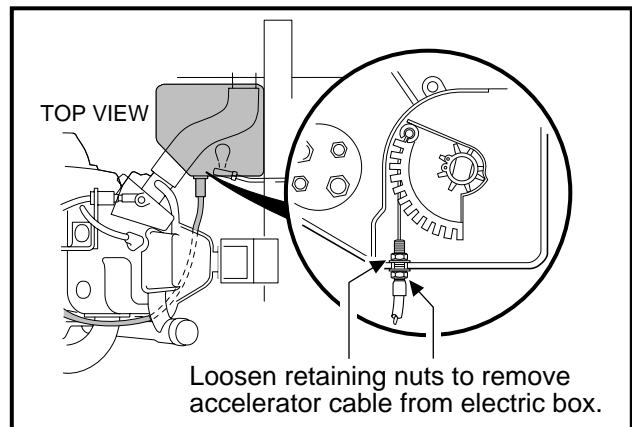

Figure 16-16 Accelerator Cable
3.6. Remove the cover from the electrical component box. Then loosen the hardware securing the accelerator cable to the box. Disconnect the cable from the actuator cam and remove it from the box (**Figure 16-16, Page 16-9**).